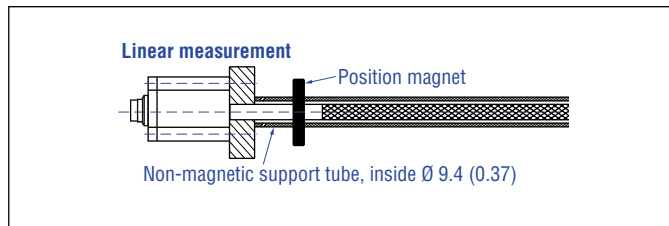

Fig. 28: Sensor with support tube
1. Always insert the flexible sensor rod in a support tube (e.g. sensor rod HD/HL/HP or HFP profile). The support tube has to be made of non-magnetic material and has to have an inside diameter of minimum 9.4 mm (0.37 in.) (Fig. 28). The support tube can be straight or bent.